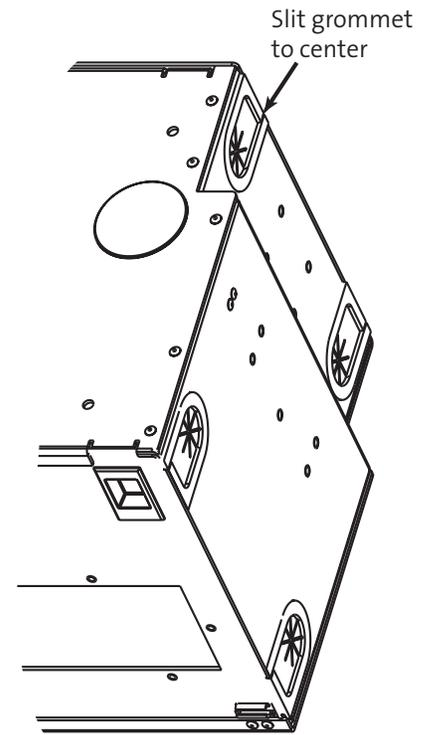

Figure 11
Step 6: Route pigtail fibers through express ports in the top and bottom of the standard connector housings to splice housings. If installing fiber into the NEBS-compliant connector housing (Figure 11), slit the grommet from the outer edge to the center and feed fiber through the grommet. Ensure that the grommet maintains a tight seal around the fiber to maintain the fire-retardant capability.